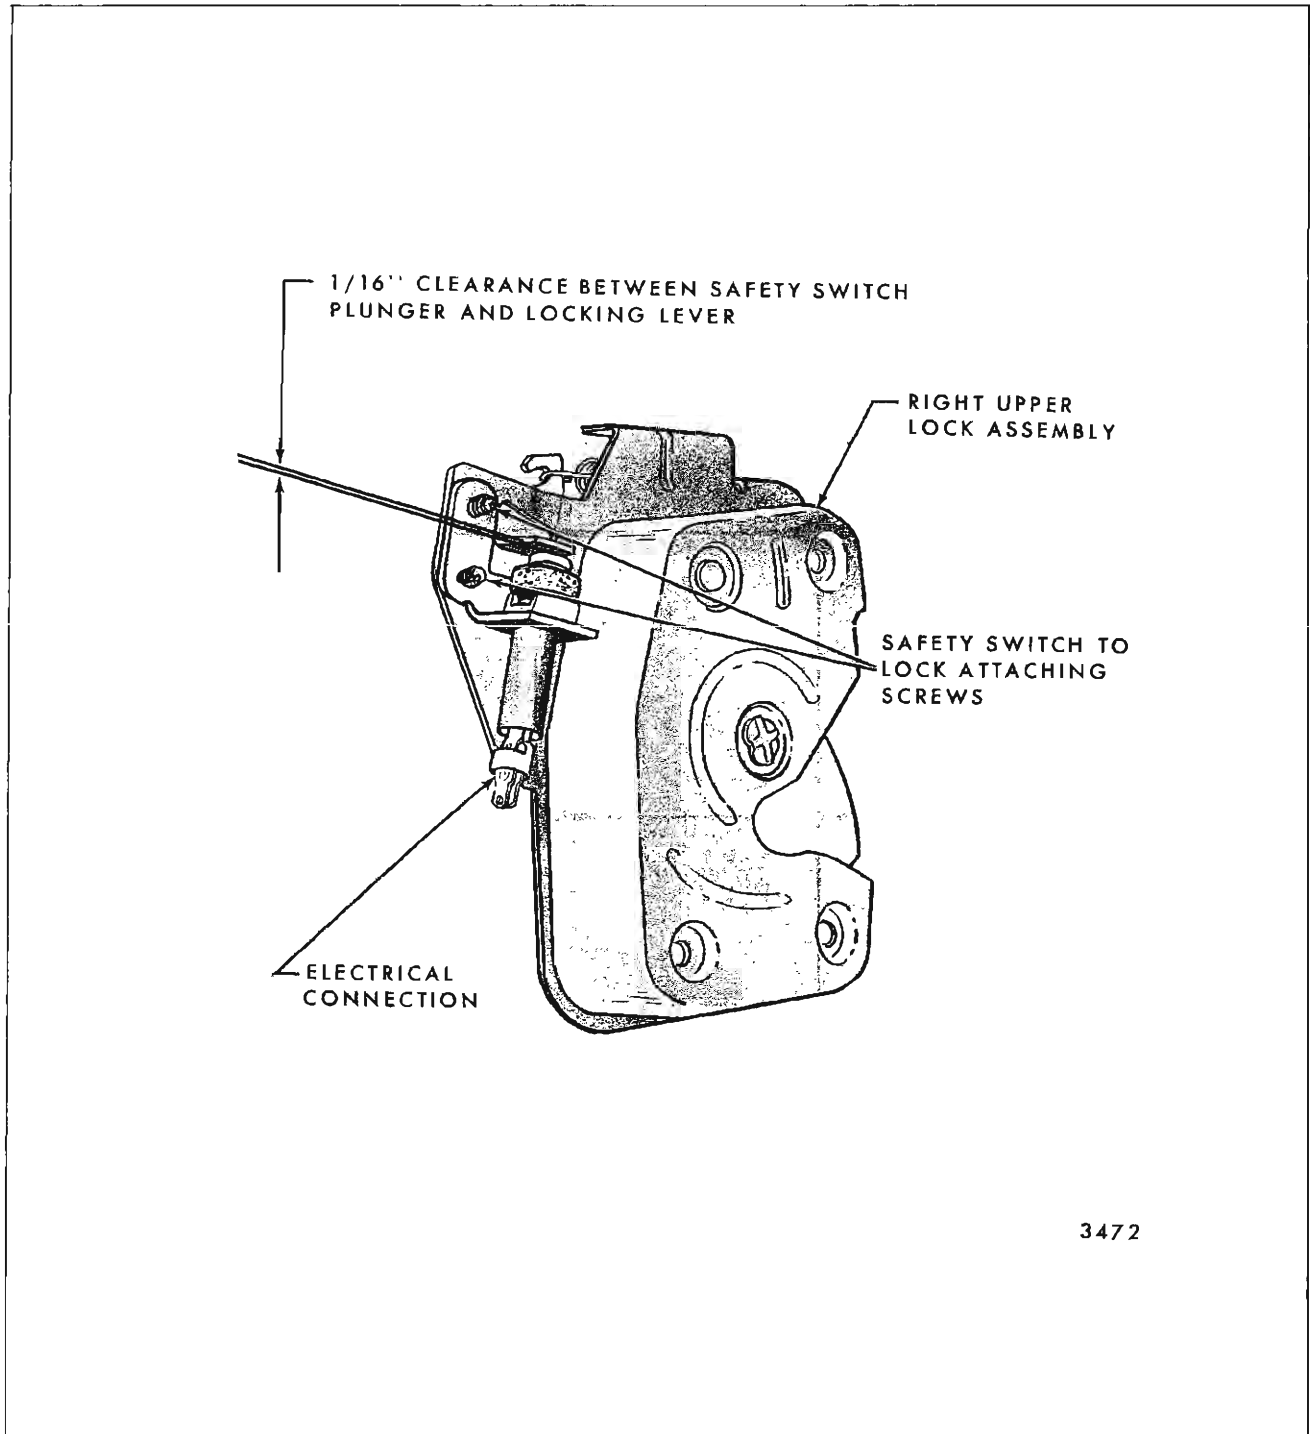

Fig. 9-15—Dual Tail Gate Electrical Safety Switch
2. Remove screws (2) securing switch to right upper lock, disconnect electrical conduit and remove switch (See Fig. 9-15).
a 1/16" clearance between safety switch plunger and lock locking lever (See Fig. 9-15).